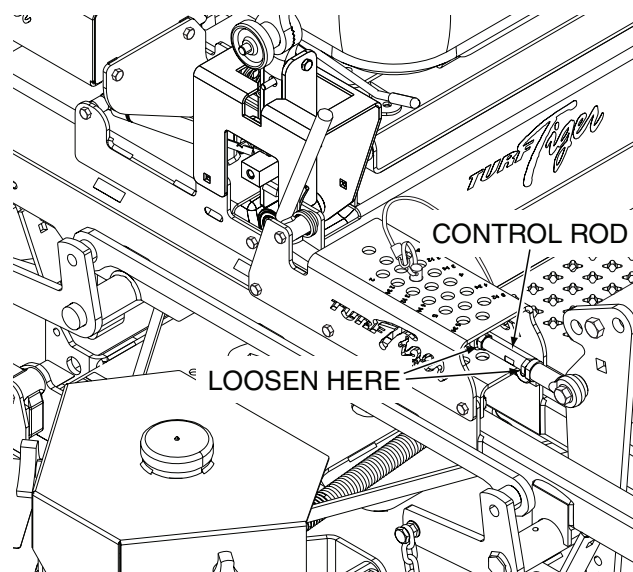

Figure 6-8. Cutter Deck Height Adjustment
3. Loosen the jam nuts on both ends of the deck height control rod. See Figure 6-8.
4. Turn the control rod (See Figure 6-8) until the measurement from the floor to the cutter blade tip is at 4-1/2". Tighten the jam nuts on the control rod.